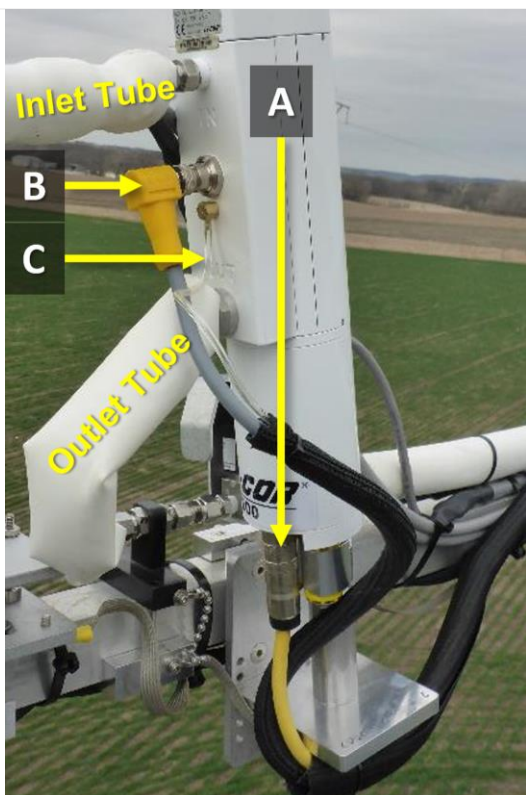

Figure 78. LICOR LI-7200/RS IRGA Sensor Head Connections.
A. Remove the Sensor Head Control Cable using soft grip pliers from the base of sensor (**Figure 78**). The other end of this cable attaches to the analyzer interface unit at the connector labeled **IRGA**. The removal of interface box connections is covered in later steps.
B. Disconnect right angle temp cable in Figure 78. The other end of this cable connects to the interface box labeled **SENSOR**.
C. Disconnect the pressure tube (**Figure 78**) from the barbed tube fitting on the LICOR LI-7200/RS. Pull firmly downwards to disconnect.
Lastly, remove the inlet and outlet tube (**Figure 78**) swage connections to the IRGA by loosening them with a crescent wrench.